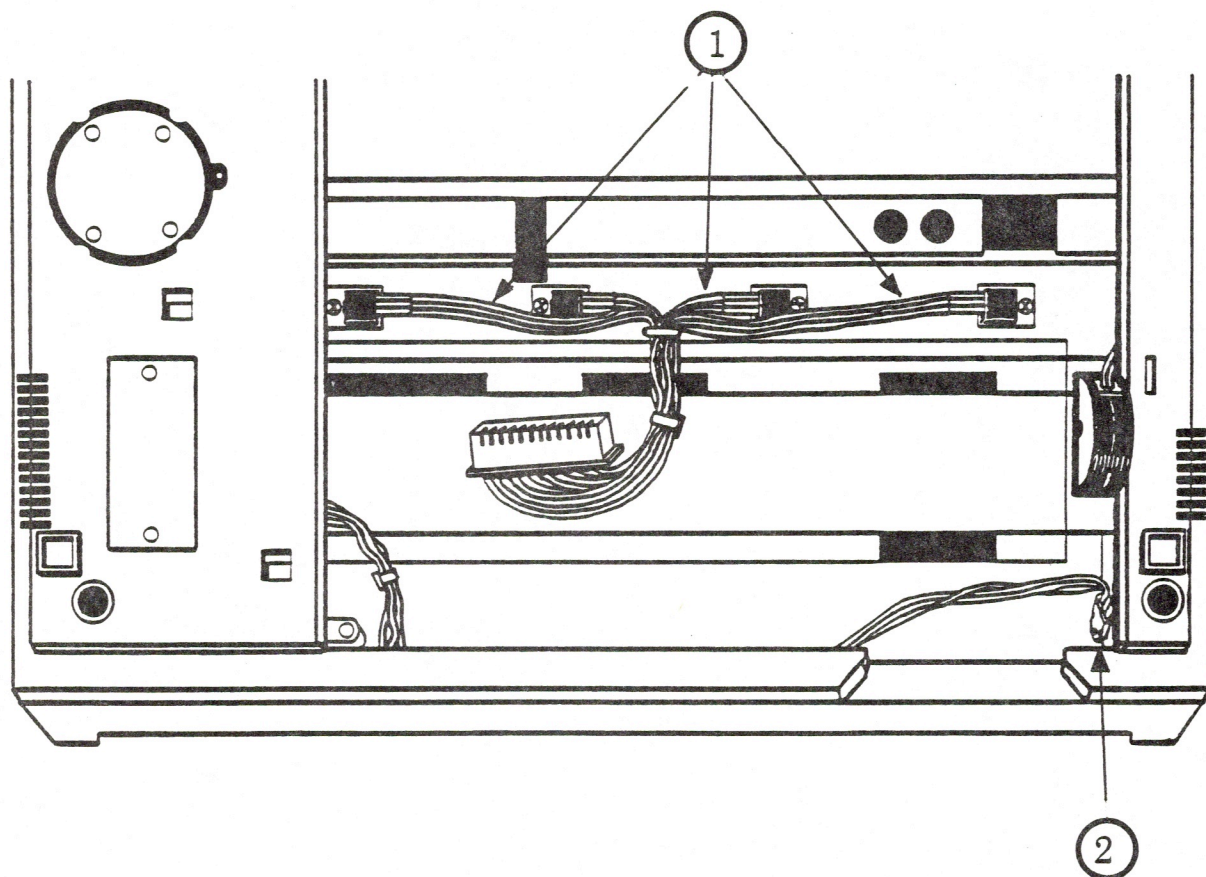

FIGURE 4
3. Note the location of the transistor assembly in Figure 4, #1.
3. Remove the screw from the 5V transistor assembly (Figure 4, #2) and carefully remove the transistor.